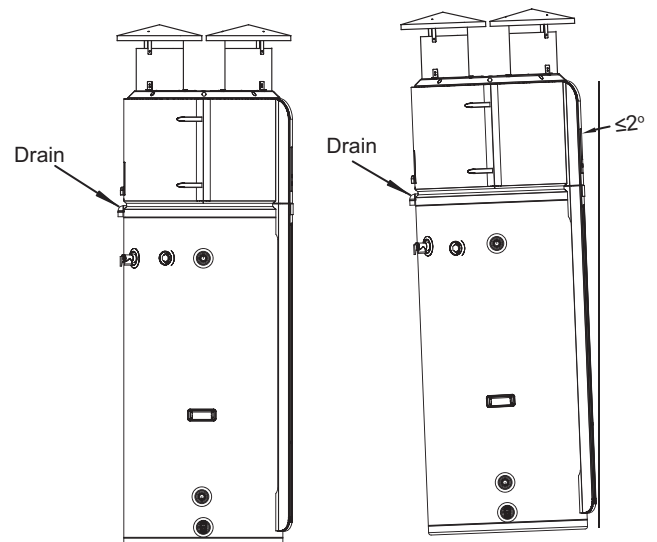

Fig.3-6
3) To smoothly drain condensate from unit, please install the main unit on a horizontal floor. Otherwise, please ensuring the drain vent is at the lowest level. Recommended inclination angle of unit to the ground should be no more than 2° . (Fig.3-6)